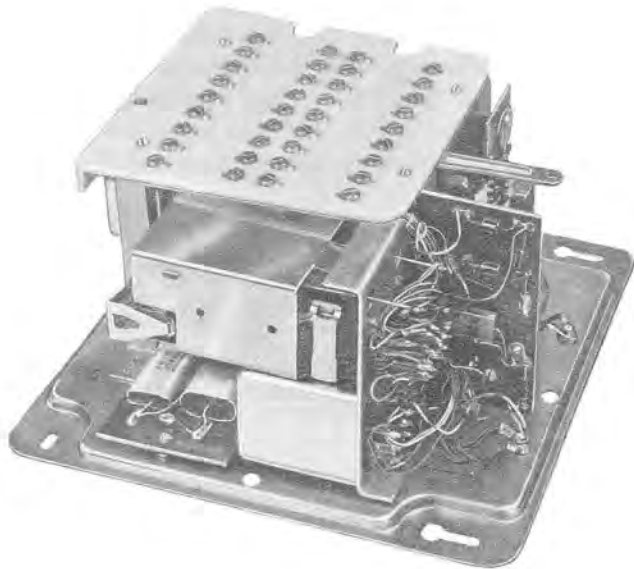

Fig. 4—55D Control Unit
**1.07 55D Control Unit (Fig. 4):** Dimensions are 8-7/32 inches wide by 4-13/32 inches deep by 8 inches high. Weight: approximately 5-1/2 lbs. Contains the circuits required for speakerphone operation. Power for the 55D control unit may be provided from the 1A service unit or from a 2012B transformer.